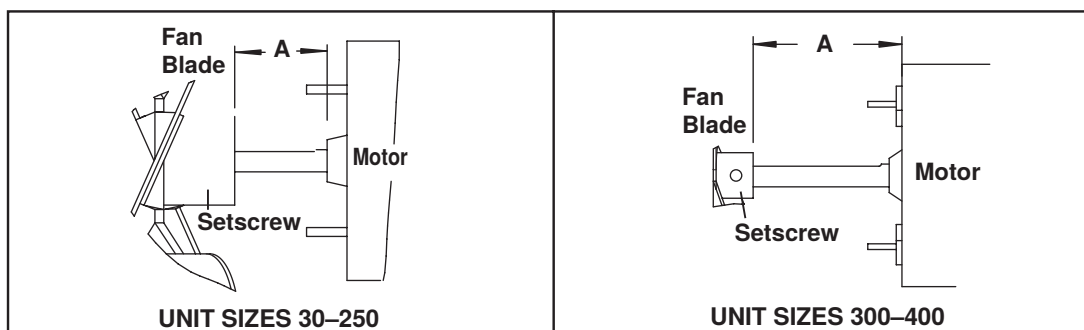

Figure 25. Fan and Motor Spacing (Refer to Table 25)
6. Ensure that fan is in proper position on shaft (see Figure 25), that setscrew is tightened in accordance with torque listed in Table 25, and that nuts securing motor to fan guard are torqued to to 30 inch-pounds.
*See Figure 25 .
*See Figure 25.